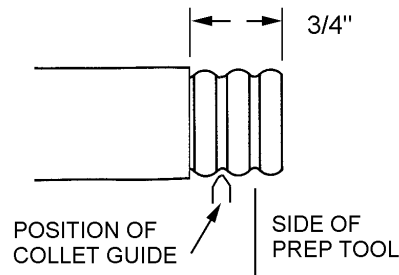

Figure 3.
2. Trim and remove the cable jacket with a knife to the 3/4 inch dimension shown in Figure 3.
3. Open the spring loaded Prep Tool and insert the cable into the tool from the jacket blade side. Position the first cable corrugation nearest to the trimmed jacket over the collet guide as shown in Figure 3. Two corrugations will protrude past the side of the Prep Tool.
3/4" Dimension Step 2, Figure 3